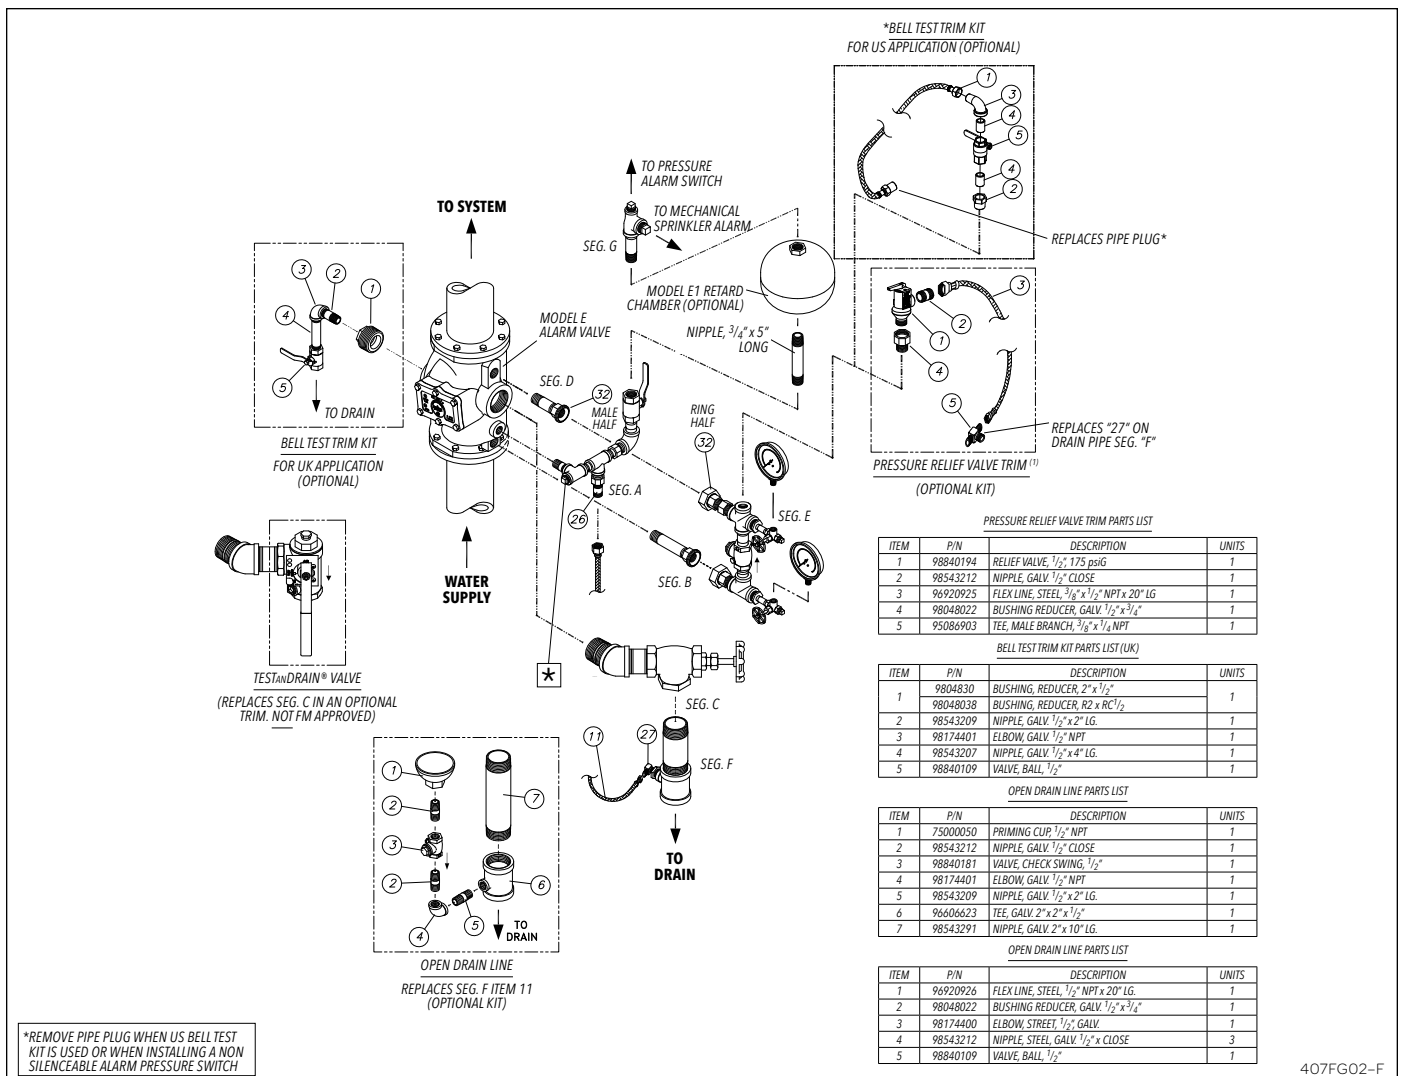

Fig. 2 – Model E 8² Flanged Inlet and Outlet Alarm Valve Variable Pressure Open Drain Trim
The E3 trim sets for the Reliable Model E Alarm Valve (Figure 2) are arranged for rapid, easy and compact attachment and serves as connection points to Reliable Alarm and other devices. The trim also serves as means for testing the operation of the alarm devices without causing the system to operate. Three basic Model E-3 trim sets are available for use with the Model E Alarm Valve:
Optional Drain Line Kit required (Figs. 2 and 3 and 5)
A Pressure Relief Trim Kit is required with gridded wet pipe systems. Pressure relief trim kit is optional in Model E-3 Variable Pressure Trim Sets as illustrated in Figure 2.
Variable Pressure Vertical Installation (Figure 2)
• **Constant Pressure Vertical Installation (Figs. 2 & 3 & 7)**